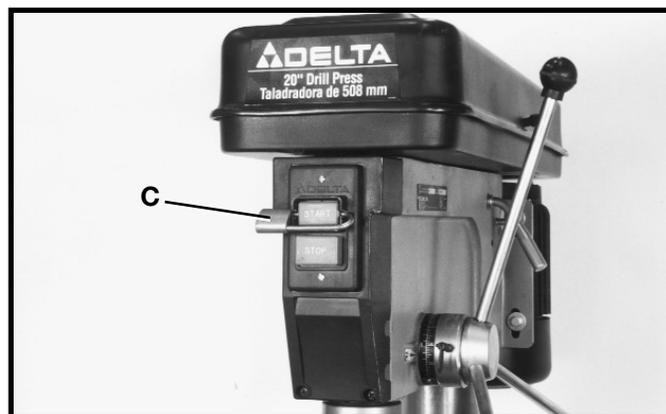

Fig. 24
IMPORTANT: When the machine is not in use, the “STOP” button should be locked to prevent unauthorized use, using a padlock (C) Fig. 24, with 3/16” diameter shackle.